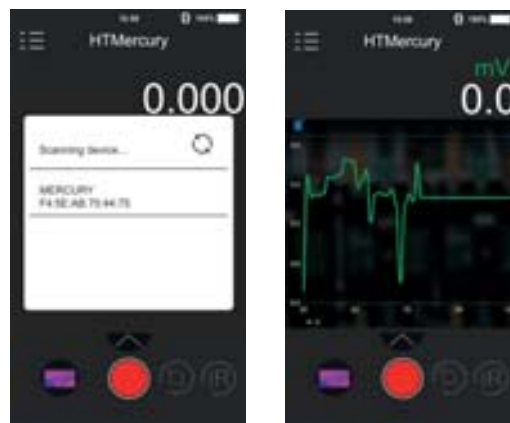
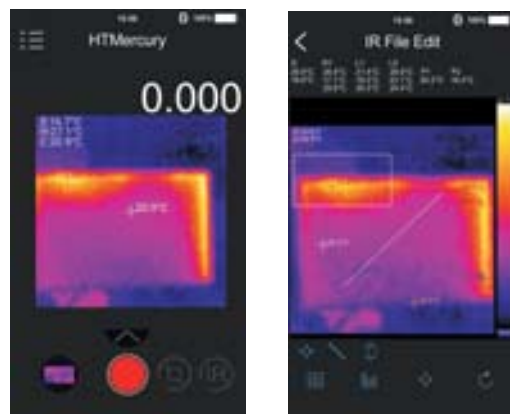

Fig. 48: Communication with the APP HTMercury
Fig. 49: Applications of the APP HTMercury
4. Search for the instrument in the APP (see Fig. 48 – left side).
5. The instrument's input signal is displayed in real time on the mobile device (see Fig. 48 – right side) and it is possible to save screenshots and to activate/deactivate recordings from the internal menus of the APP. it is also possible to save screenshots of thermographic images and insert objects for advanced analyses (see Fig. 49). See the Help on line of APP for details.